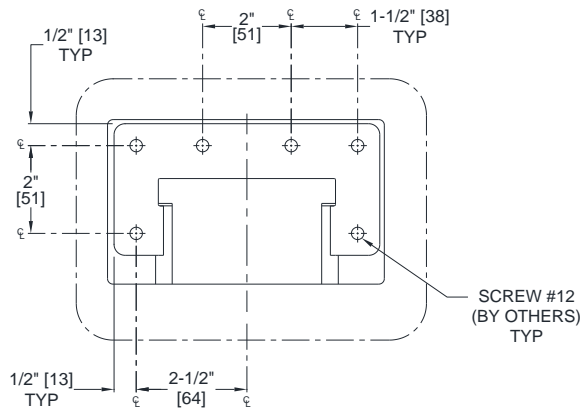
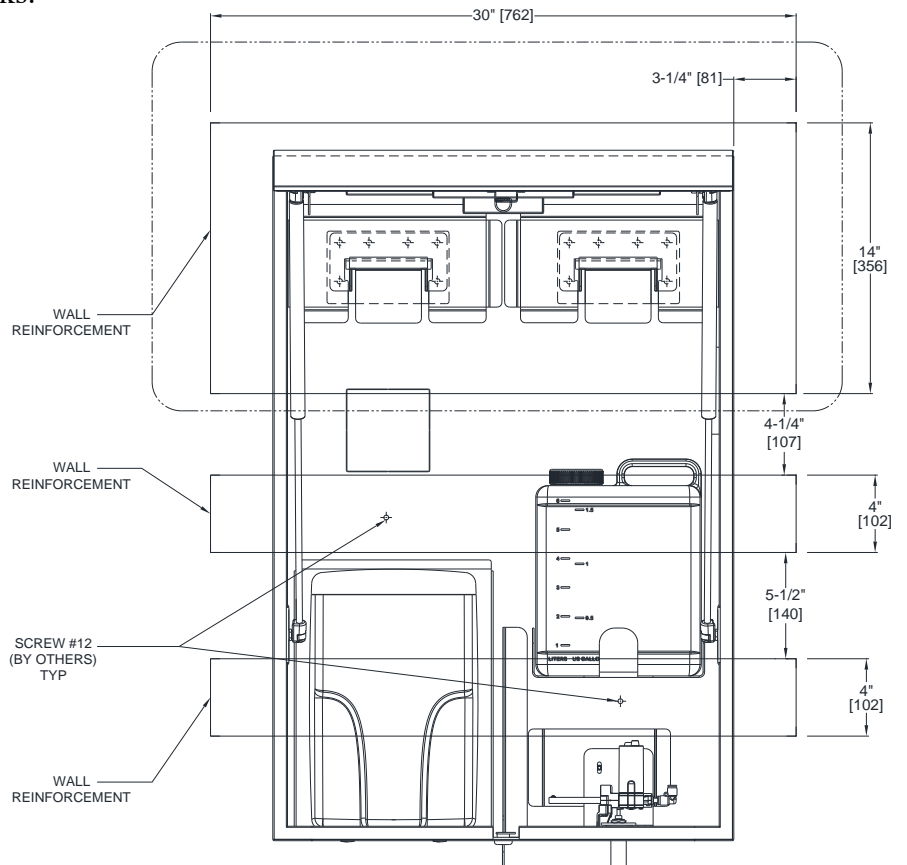
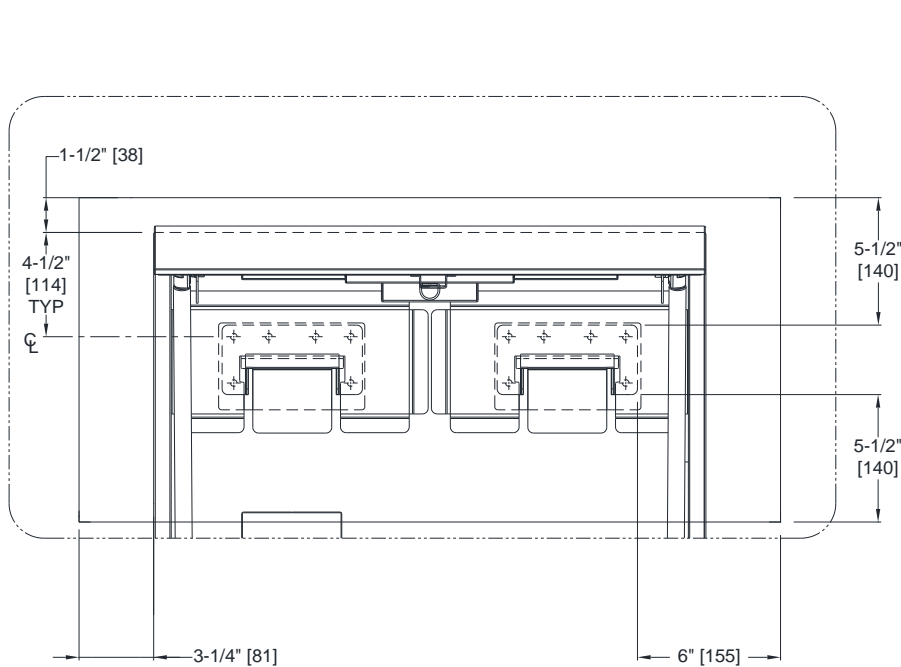
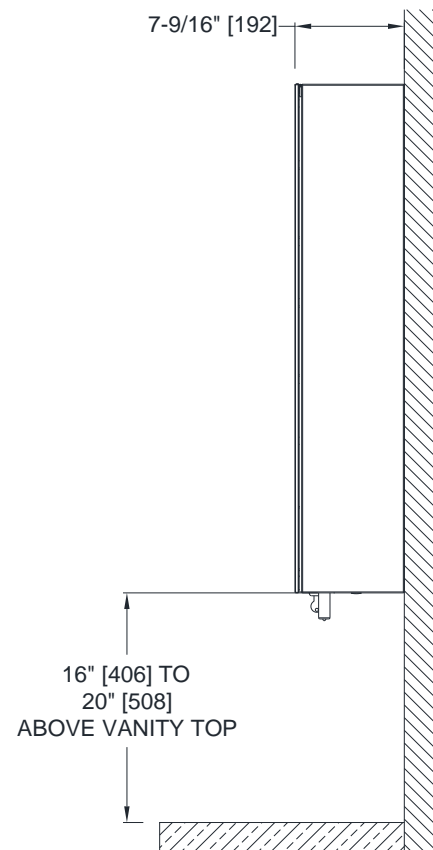

FIG. 1
FIG. 2
FIG. 3
FIG. 4
Appropriate wall reinforcement and AC quad outlet must be prepared prior to initiating the Velare™ BTM System installation (see Fig. 2 for blocking reference and Fig. 5 for Electrical KO location). Install the two (2) wall mounting hanger hooks located in the interior of the module on wall using twelve (12) № 12 self-threading, pan-head screws (by others) (Fig. 1) into appropriate wall reinforcements (Fig. 2). Hang the cabinet on wall mounting hanger hooks (Fig. 3). Suggested mounting height is to position bottom of module 16" [406] to 20" [508] above vanity top (Fig. 4). Power can be provided to the interior of module through the Electrical Service KO for quad outlets located at the back of the cabinet.
**IMPORTANT:** Install two (2) № 12 self-threading locking screws (by others) at the security locking holes to prevent unit from being lifted off hanger hooks.